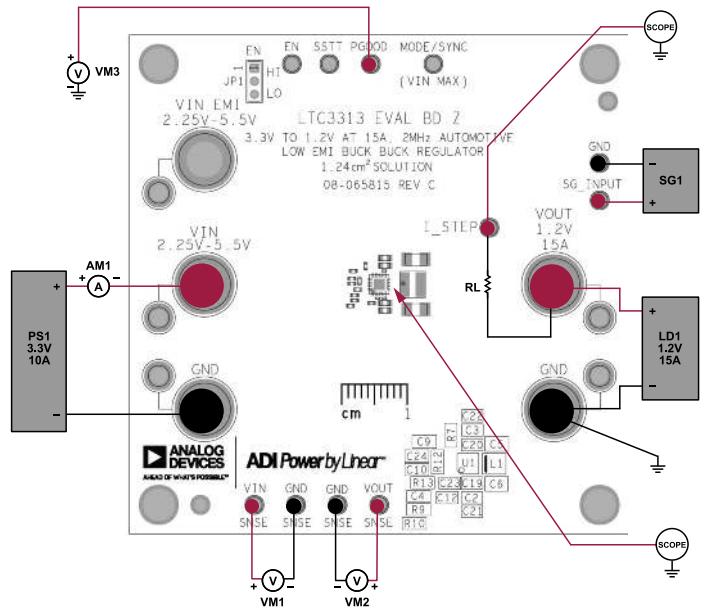

Figure 6. Test Setup for EVAL-LTC3313EV-A-Z
Before following the quick start procedure, note that for accurate  $V_{IN}$ ,  $V_{OUT}$ , and efficiency measurements, measure  $V_{IN}$  at the VIN SNSE and GND SNSN turrets and measure  $V_{OUT}$  at the VOUT SNSE and GND SNSE turrets, which are illustrated as VM1 and VM2 in Figure 6. In addition, when measuring the input or output ripple, avoid a long ground lead on the oscilloscope probe.
Refer to Figure 6 for the proper measurement equipment test setup and also take the following steps:
14. To test the transient response with a base load, add the desired resistor to produce a minimum load between the  $V_{OUT}$  and the I\_STEP turrets (RL shown on Figure 6). Note that the total load resistance is  $R_L + R_{14}$  (20 m $\Omega$ ). Adjust a signal generator with a 10 ms period, a 10% duty cycle, and an amplitude from 1 V to 2 V to start.